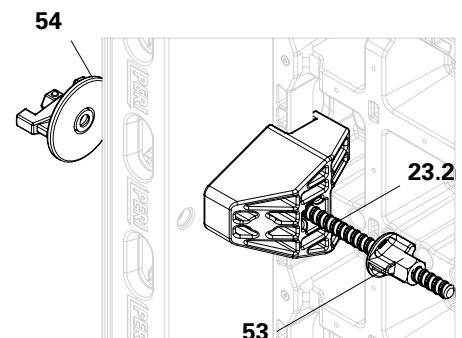

Fig. A3.08c
5. Push the DUO corner tie (**23.2**) through the DUO corner connector (**23**) and the DMP multi panel (**12.2**). (Fig. A3.08c)